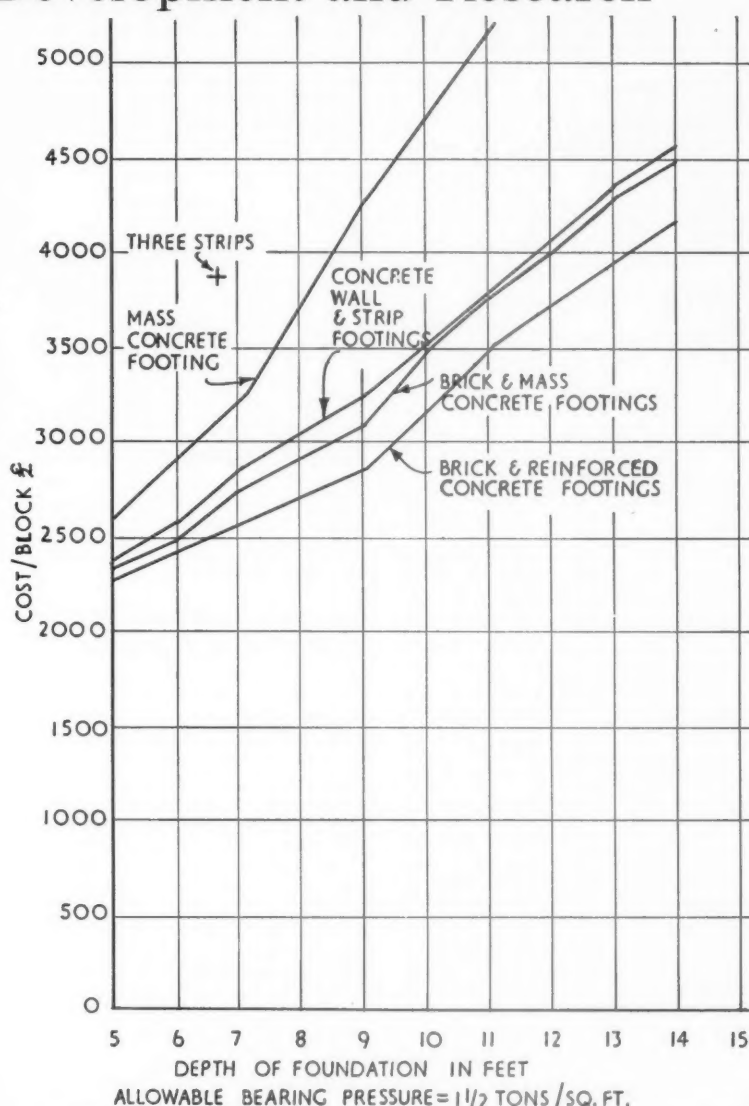

Fig. 2. Graph showing comparative costs of various kinds of foundations for a typical block of flats
**Alternative Foundations.** Foundations of typical brick cross-wall blocks of flats have until recently been designed as mass concrete strips. A re-examination of a number of typical cases showed that, given steel availability and no marked increase in price, money could be saved in many cases by using reinforced concrete strip foundations. A number of graphs were worked out showing the comparative cost of various kinds of foundation for typical blocks of flats, at all depths from 5 ft. to 15 ft. and for various bearing pressures between 1 ton and 2½ tons per foot super (Fig. 2).